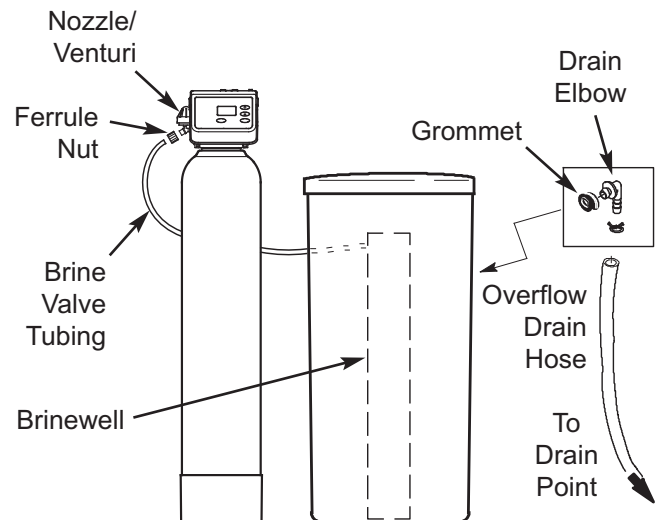

FIG. 10
- b. Connect the brine tube to the nozzle/venturi assembly using the ferrule nut provided (See Figure 10).